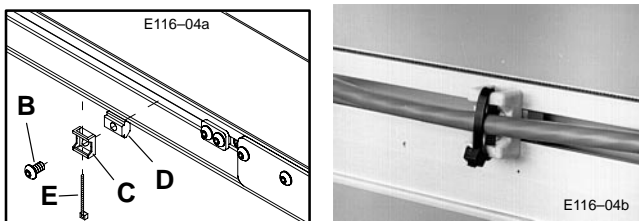

Figure 4: Zip Tie Mounting Detail
- d. To route Cable over a previously mounted component or to anchor the Cable, use the Zip Tie Mounts (C) and Single Drop-in Tee Bars (D), (Figure 4). Secure each Zip Tie Mount with an M6 x 10 mm Button Head Cap Screw (B). Tighten the Screws with the 4 mm Hex Key Wrench (H) provided.